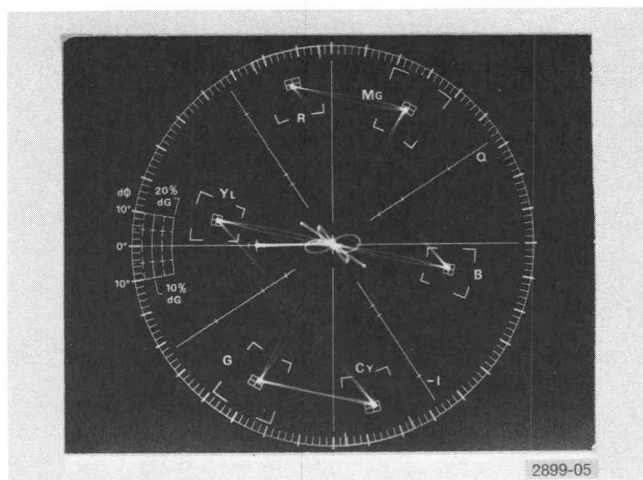

Fig. 2-5. 1420 NTSC color bars, 75% amplitude, 7.5% setup.
c. Rotate PHASE to place the burst vectors on their graticule marks (see Fig. 2-5).
a. Set the 1420  $\phi$  REF switch to A. Chrominance information in Channel B is now demodulated with reference to the subcarrier phase in Channel A. The display on the Vectorscope should be the same as illustrated in Fig. 2-5. Some phase jitter will be noticed in this mode of operation, because the Sync Stripper circuit does not receive or regenerate composite sync. Therefore, the H Regenerator free-runs at about 15 kHz, but not at exact line sync time. As a result, timing signals generated with reference to the H Regenerator are not exact.